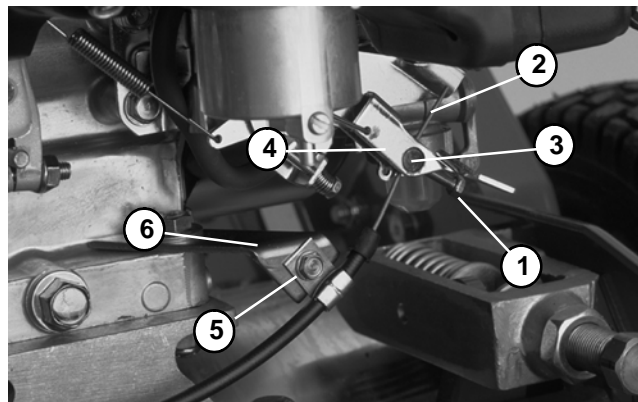

Figure 9
3. Remove throttle cable from the governor as follows (Fig. 9):
5. Run new throttle cable to the governor lever. Install new cable to the governor lever as follows (Fig. 9).